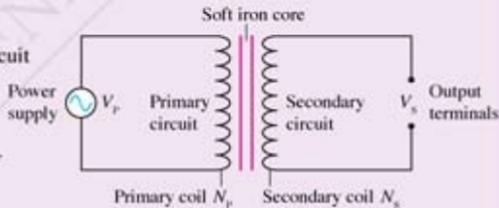

Figure 4.31
2. Examine Figure 4.31 that shows the circuit diagram for a simple transformer.